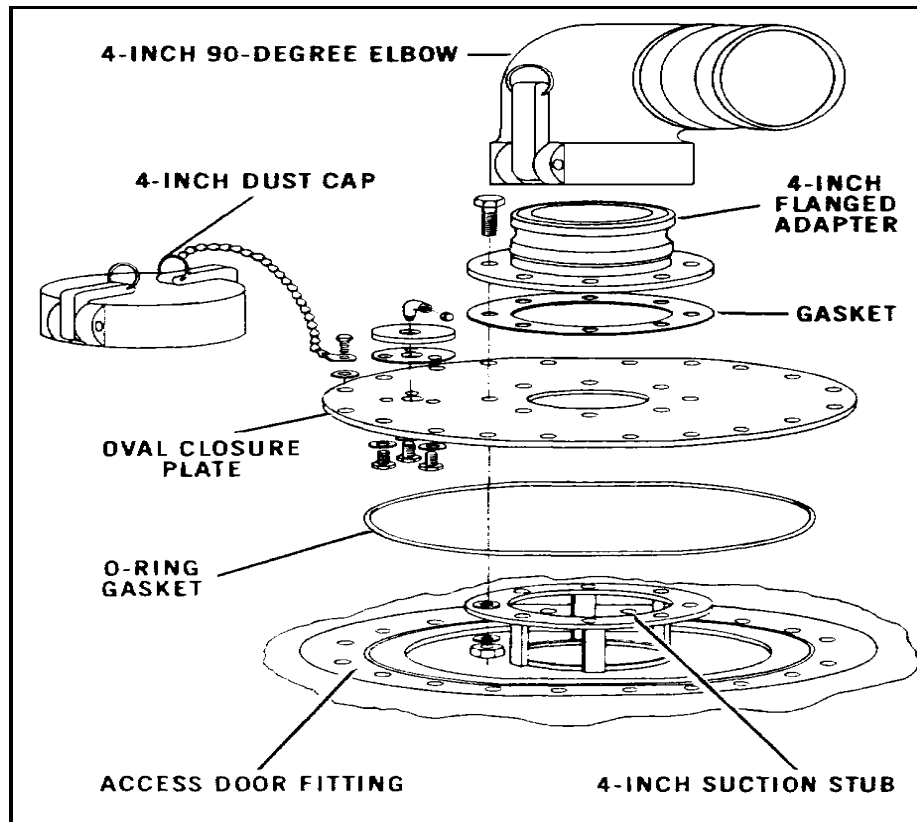

Figure 22-16. Filler/discharge assembly (same on 3,000-, 10,000-, 20,000-, and 30,000-gallon collapsible tanks)
The filler/discharge assembly as shown in Figure 22-16, page 22-17, is located on top of the tank. It consists of an access door fitting, a 4-inch suction stub, an oval closure plate, a 4-inch flanged adapter coupled to a 4-inch elbow fitting, and a 4-inch dust cap.
- Filler/discharge assemblies. The filler/discharge assemblies as shown in Figure 22-16, page 22-17 , are on top of the tank. They are similar to that of the 3,000-gallon collapsible tank.
- Filler/discharge assemblies . The two filler/discharge assemblies as shown in Figure 22-16, page 22-17 , are located on top of the tank. One is located at each end so that the tank can receive and discharge fuel from both ends.